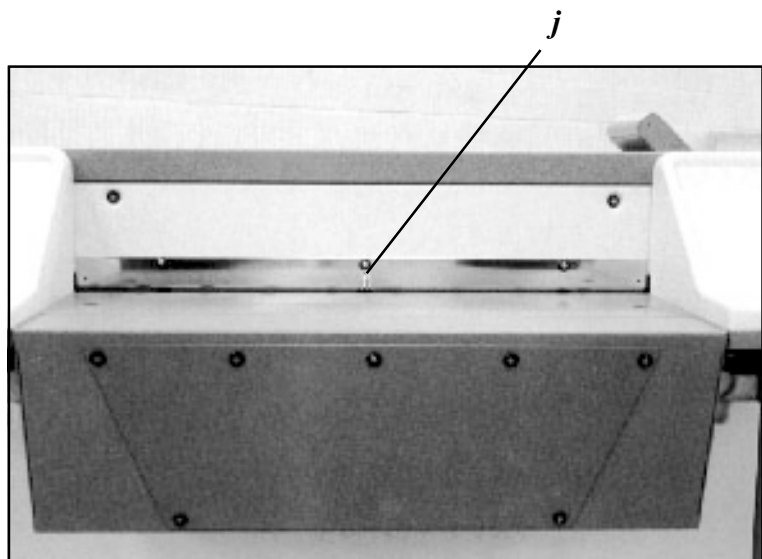

Fig. 1-G
i. Heating Element - Heats the chemistry to the operator-set temperature. The wash station does not require a heating element. A safety thermostat will act directly on the heating element in case of failure in other systems. Fig. 1-F.